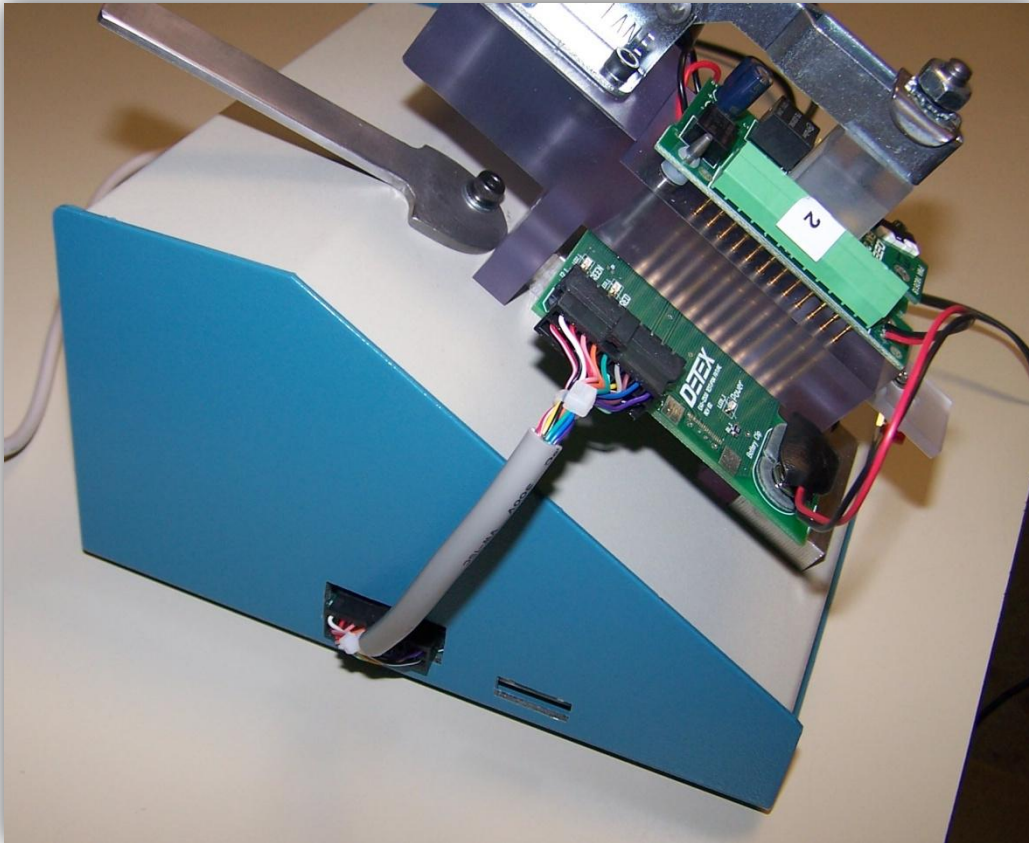

Figure 12
- 1) Programming Head Cable – Figure 12 below shows the main cable which connects the programming head to the tester unit.